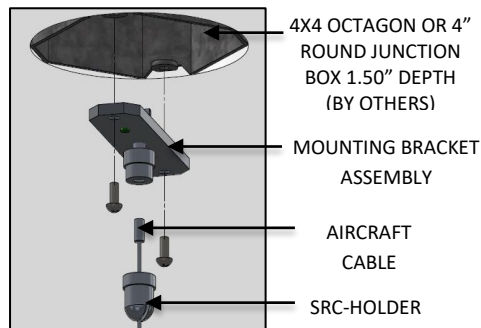

FIG. 29 – MOUNTING BRACKET ASSEMBLY
11. Feed the remaining AIRCRAFT CABLE through the SRC-HOLDER. Then assemble the SRC-HOLDER with AIRCRAFT CABLE to the SRC-BASE on the MOUNTING BRACKET ASSEMBLY. Secure the MOUNTING BRACKET ASSEMBLY to the JUNCTION BOX (by others) as shown below in FIG. 29.